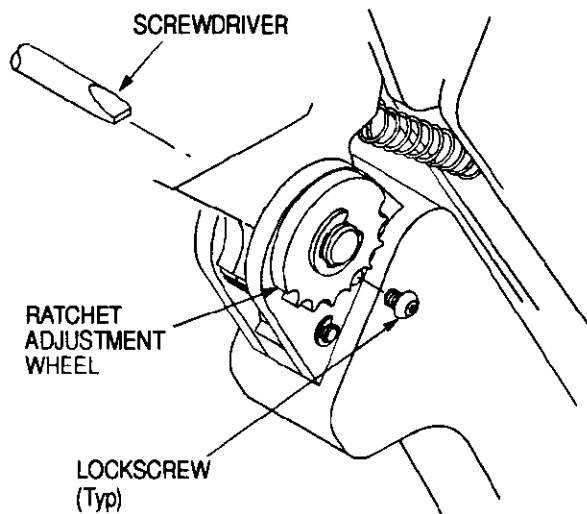

Figure 3
## 6. CRIMP HEIGHT ADJUSTMENT (Figure 3)
- Added Section 6 and Figure 3